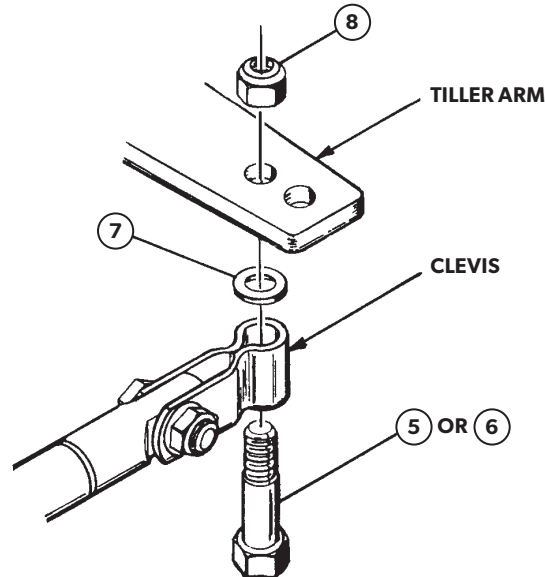

Figure 2.
2. Select proper length shoulder bolt to suit engine or tiller arm. Use item 5 for tiller arms up to 3/8" (9.5 mm) thick, or item 6 for tiller arms up to 3/4" (19 mm) thick. Refer to figure 2.